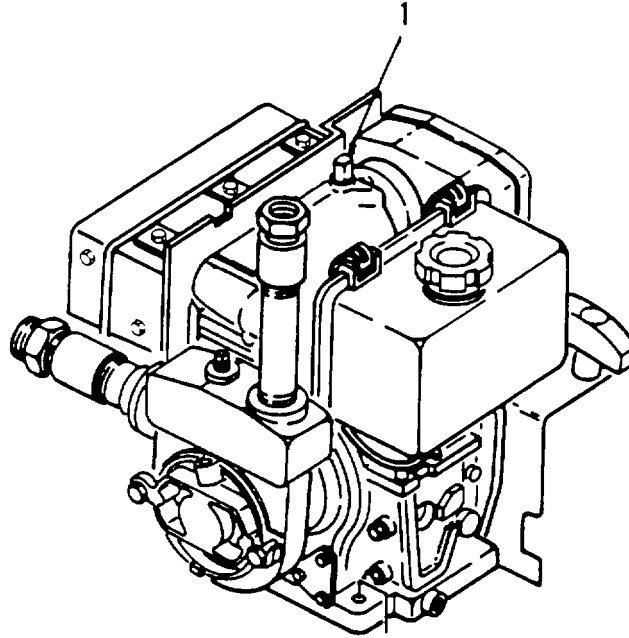

Figure 2-7. Cold Weather Starting Aid.
a. Operation in Extreme Cold. (Refer to Figure 2-7.)